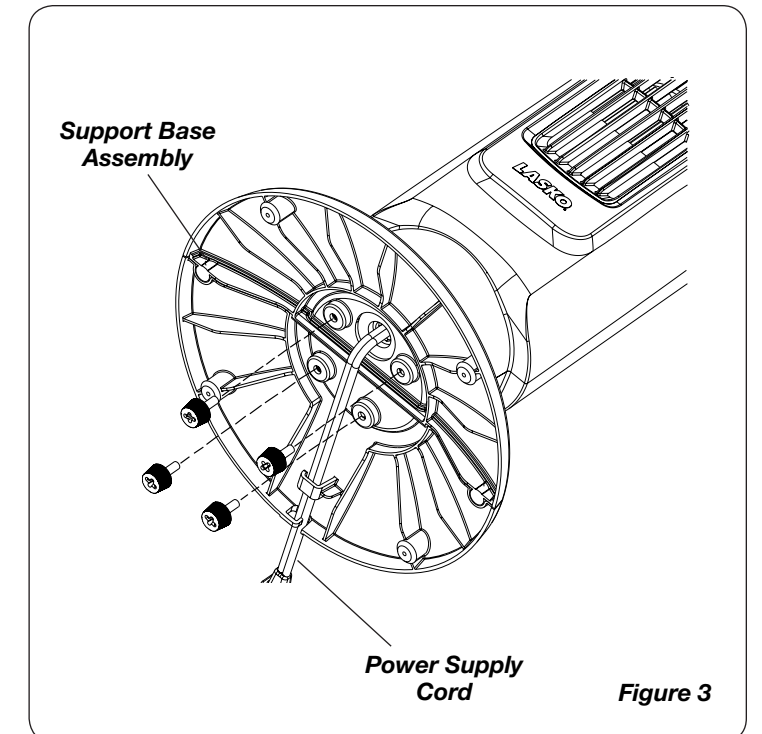

Figure 3
4. Align the Support Base holes with the threaded inserts on the bottom of the fan. Secure the (4) Thumb Screws into the four holes in the bottom of the base (Figure 3).
5. Route the Power Supply Cord out the rear of the Support Base as depicted (Figure 3).